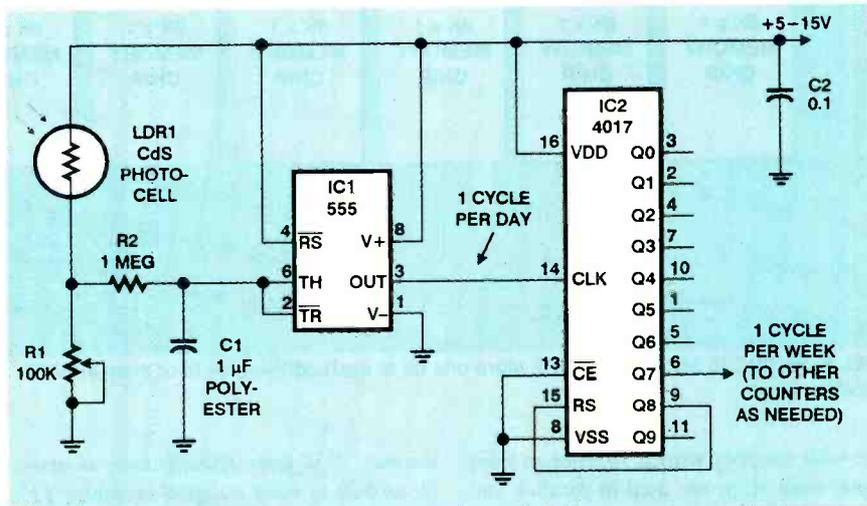

FIG. 1—THIS LONG-PERIOD TIMER CIRCUIT (sent in by reader Robert Medeika) counts days by detecting sunrise and sunset.
**A** Figure 1 shows your circuit, which we've refined a bit. The basic idea is to generate a digital signal that goes high when the sun is down and low when the sun is up, and then count the transitions.